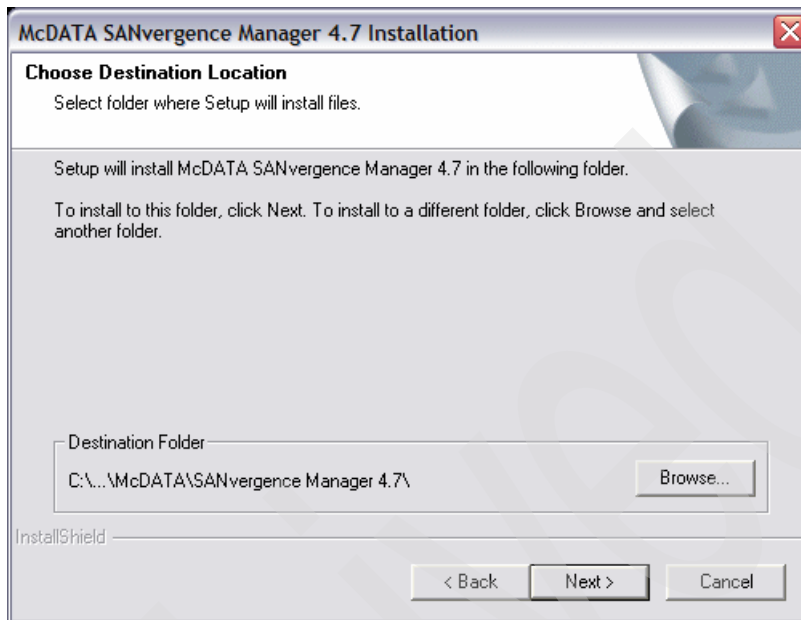

Figure 17-13 SANvergence Manager installation location
5. Review the installation folder, shown in Figure 17-13, and click **Next**.